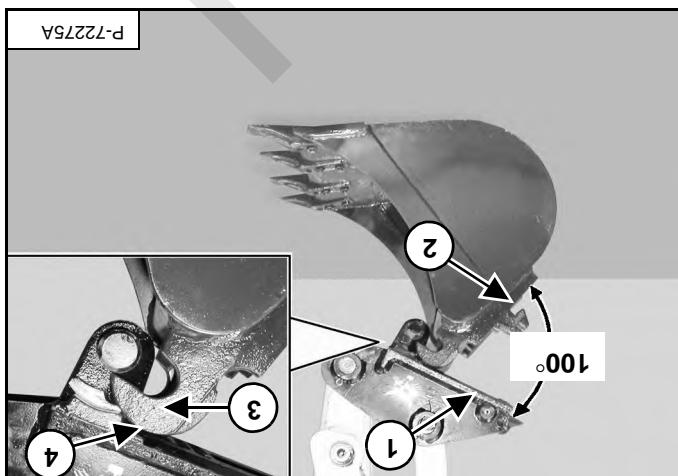

Figure 100
NOTE: There must be proper clearance (100°) between the hook (item 3) and the mounting surface (item 2) [Figure 100]. Extend the arm out to get the required angle for proper installation. There must be at least 100° between the quick coupler (item 2) [Figure 100] and the attachment mounting surface (item 1) so that there is not an interference minimum) so that there is not an interference damage to the attachment hooks or the quick coupler (item 4) [Figure 100]. Possible damage to the attachment hooks or the quick coupler could occur without proper clearance.